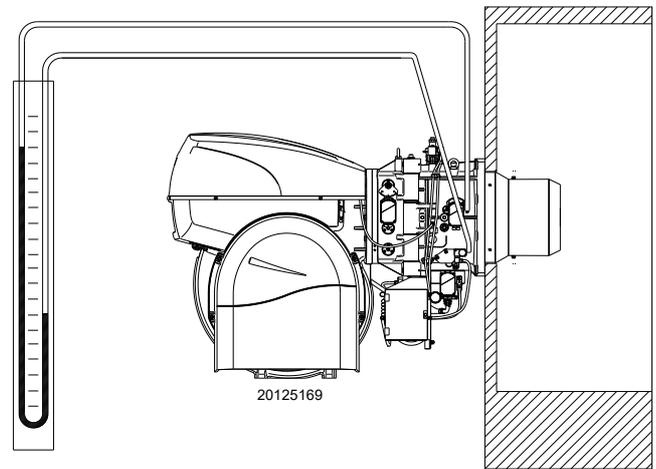

Fig. 36
- Fit a U-type pressure gauge or a differential pressure gauge (Fig. 36), with socket (+) on the gas pressure of the pipe coupling and (-) in the combustion chamber.
The arrival of gas at the sleeve is indicated by the U-type manometer (Fig. 36).